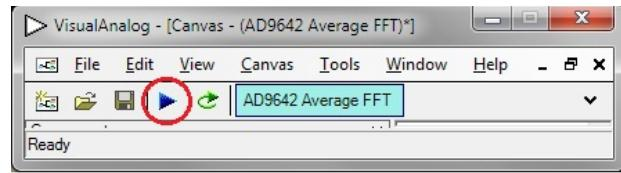

Figure 13. Run Button (Encircled in Red) in VisualAnalog Toolbar, Collapsed Display
- Click the **Run** button in the **VisualAnalog** toolbar (see Figure 13).
If the FFT window remains blank after **Run** (see Figure 13) is clicked, do the following: